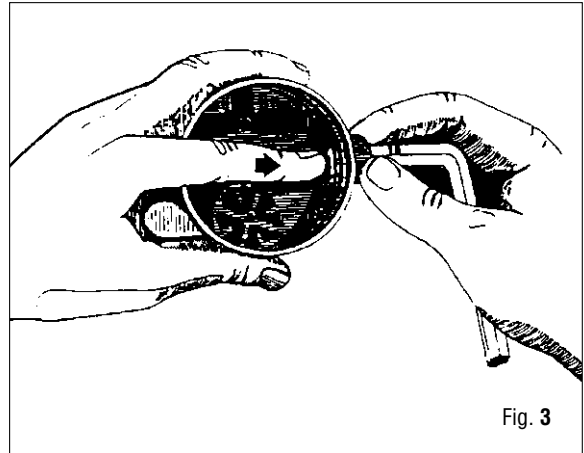

Fig. 3
21. Remove poppet body (30) and spring (31) from connector case.
22. Remove poppet seat (47) from poppet body.
23. Remove O-ring (66) from connector case.
24. Insert tool (B13) into case plug and press inward (towards the second stage case) (Fig. 3).
27. Remove O-ring (66) from case plug.
28. Remove exhaust valve (40).